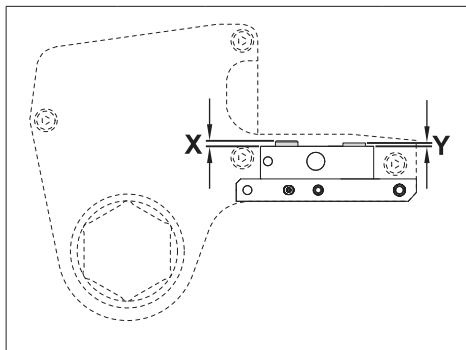

Fig. 21
- Check for the correct height for the drive unit retaining pin (K10) and the fail safe retaining pin (K11). See Figure 21, dimensions "X" and "Y".